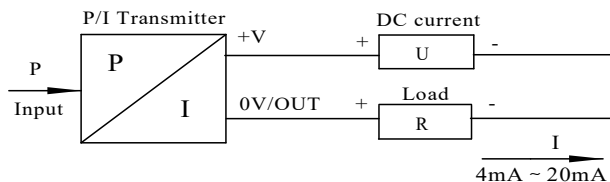

Fig. 7
- a) The electric connection method of transmitter with 2-wire, 4mA~20mA DC output to see Figure 7: